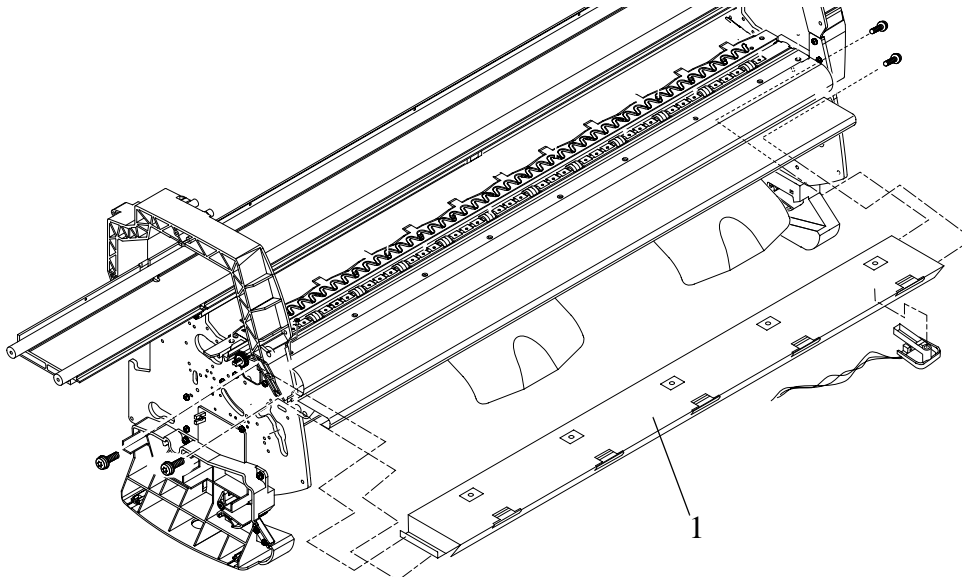

Figure 87: Center Guide
Refer to Figure 85 to Figure 87.
5. Remove the center guide (item 1) (refer to Figure 87):